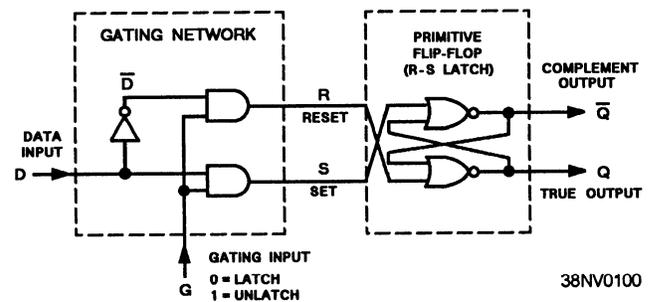

Figure 4-14.—Example of a gated operation.
• **Gated (latched) operations** —This term is used when describing logic functions that can be **turned on** or **turned off**, dependent upon an input control signal (command or enable). See figure 4-14.